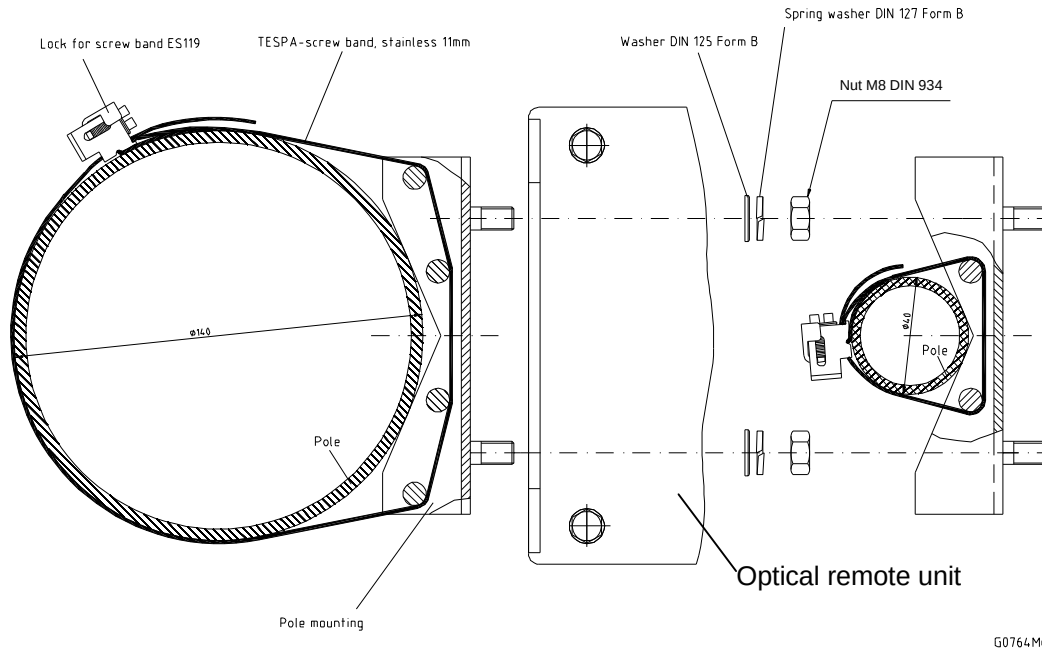

figure 4-4 Pole mounting.
- Use the screw bands to fasten the two U-beams to the pole as illustrated in *figure 4-4 Pole mounting*.